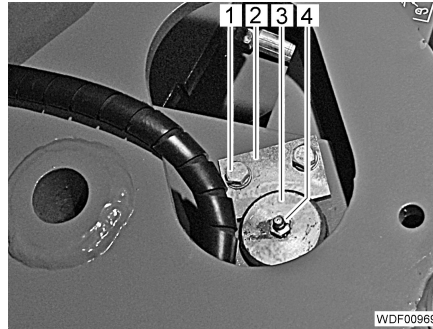

Fig. 208 Pin attachment
- Unscrew the grease nipple (Fig. 208,4).
- Unscrew the 2 screws (Fig. 208,1).
- Remove the locking plate (Fig. 208,2).